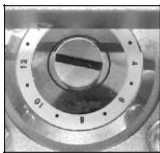

Fig.1
1. Loosen the blade set screw. (fig.1)